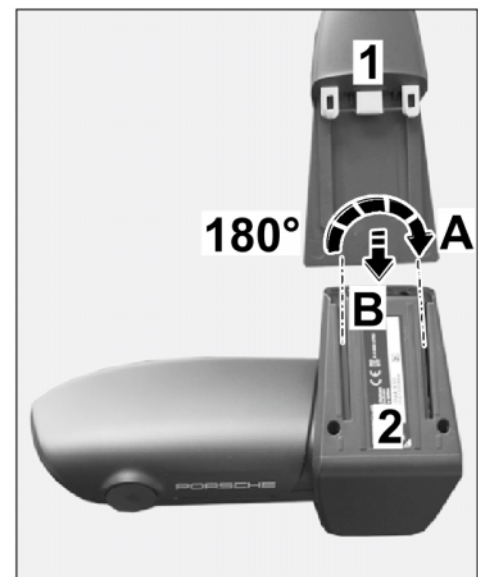

Figure 7
- 2.1.1 Install retainer plate with wire harness on the base of the front camera until the locking mechanism engages. ⇒ *Figure 7*